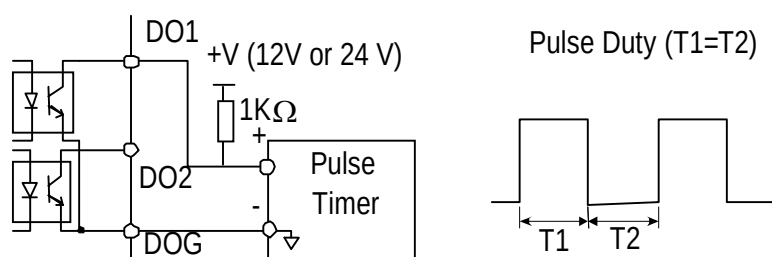

Figure 46 Pulse Signal Output
- DO1 is a Photo-Coupler Output, its Pulse Output Frequency is set by parameter Sn-35. See Figure 46.
- When the Multi-Function Output Terminal (DO1) is set as Pulse Output (when Sn-31 or Sn-32= 14), the final Output Pulse Frequency is the multiple (according to Sn-35) of the inverter output frequency. Refer to Figure 46 for pulse signal output.